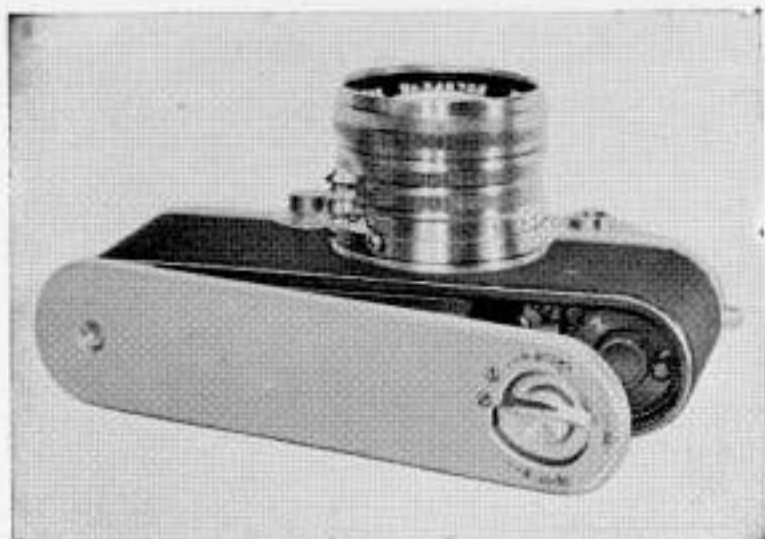

Fig. 1
- ( I ) Push the film transport lever (B) all the way until it goes no further, and press the shutter release.
- ( II ) Turn the camera upside down. Lift the lock handle, and give it a half turn from " Close " to " Open ". Then, remove the baseplate. (See Fig. 1)